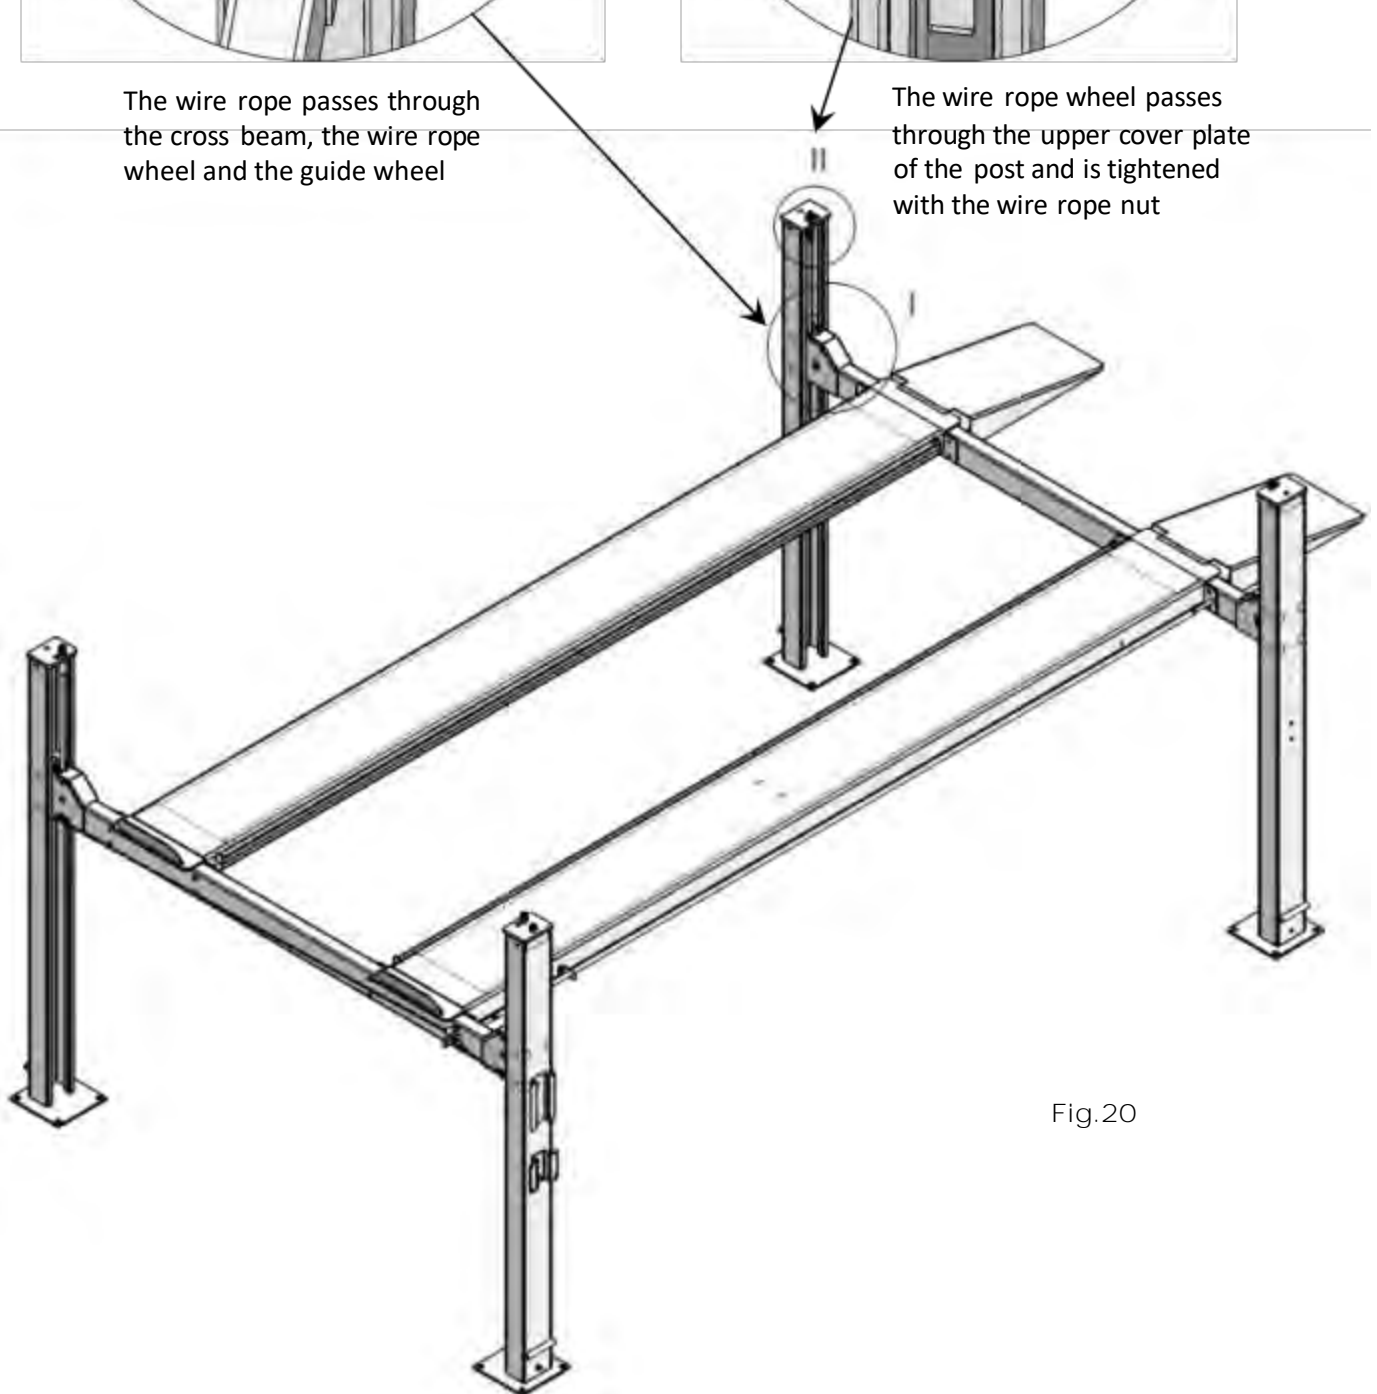

Fig.20
2. The cable goes through the cross beam to column top plates and tightened with cable nuts (See Fig. 20)